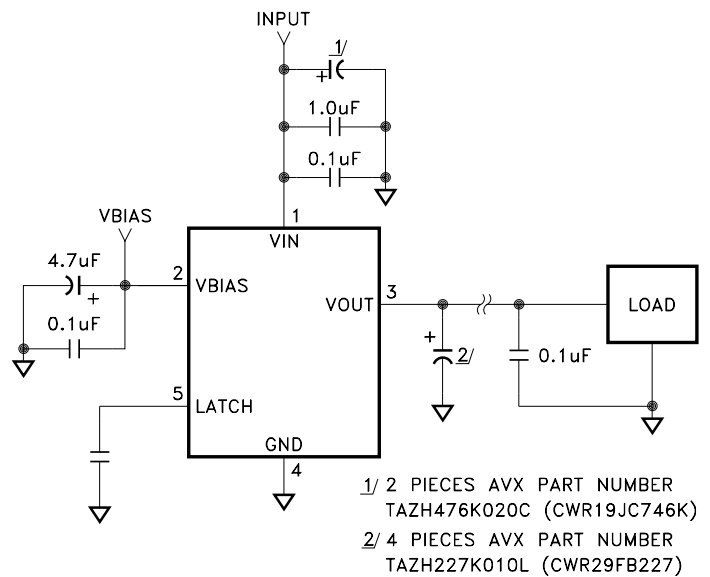

FIGURE 2
- ① Unless otherwise specified, VIN=VOUT+1V, VBIAS=5V and I_{OUT}=10mA. See figure 2 for typical test circuit.
- ② Guaranteed by design but not tested. Typical parameters are representative of actual device performance but are for reference only. Industrial grade devices shall be tested to subgroups 1 and 4 unless otherwise requested.
- ③ Military grade devices ("H" and "K" suffix) shall be 100% tested to subgroups 1,2,3 and 4.
- ④ Subgroup 5 and 6 testing available upon request.
- ⑤ Subgroup 1,4 T_C=+25°C
- ⑥ Subgroup 2,5 T_C=+125°C